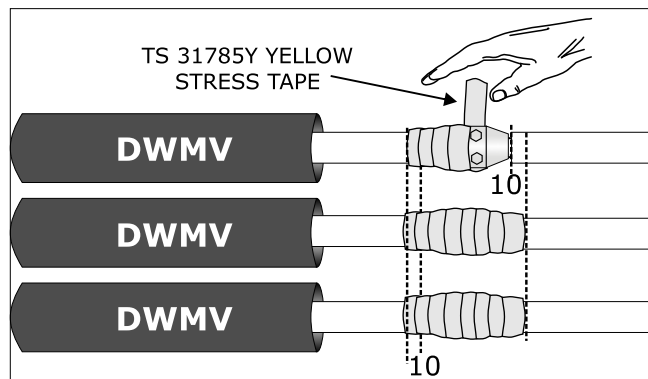

FIG 10
12. Wrap the Yellow Stress Tape (TS 31785Y) around the Connector area with stretch and 1/2 width overlap. Extend the Tape onto the Primary Insulation by 10mm either side as shown in Fig 10.